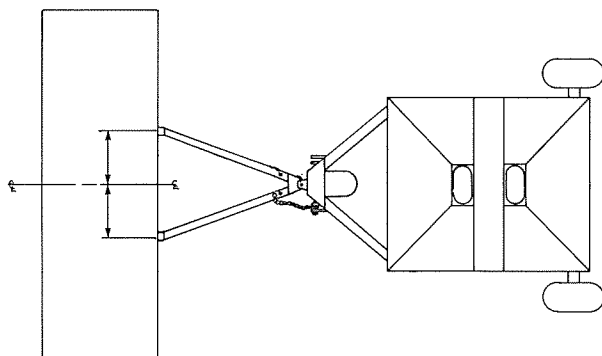

Figure 10
**NOTE:** IF TOWING A CULTIVATOR WITH THE AIRSEEDER THE TOWING VEHICLE MUST HAVE A G.V.W. EQUAL TO/OR GREATER THAN THE COMBINED WEIGHT OF THE SEEDER AND CULTIVATOR. (See Fig. 10).